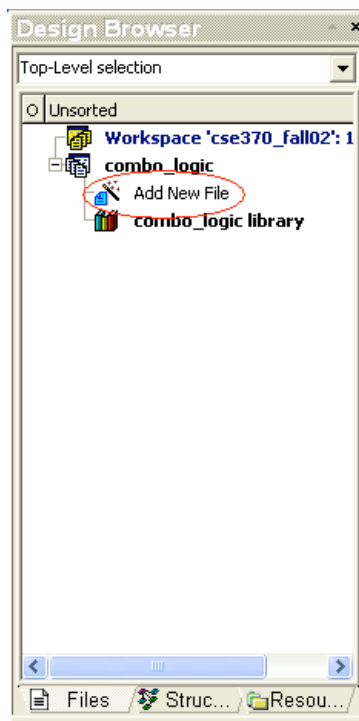

Figure 8
1. Double-click the “Add New File” option in the Design Browser (Figure 8). This will open the Add New File window.